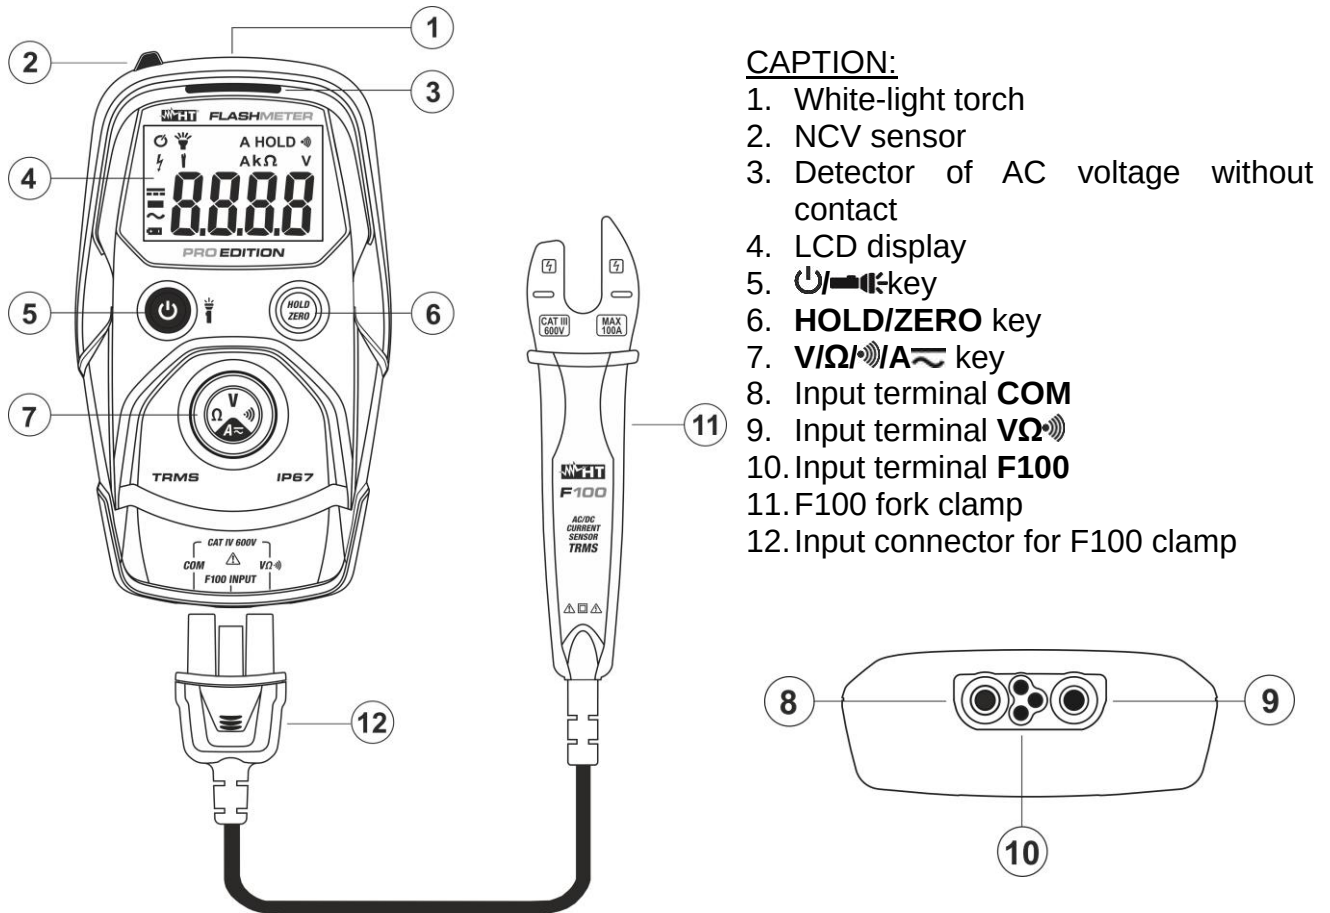

Fig. 1: Description of the instrument
Pressing the  key allows turning on the instrument. Press and hold the  key for approx. 1s to turn off the instrument. With instrument switched on, press the  key to activate/deactivate the integrated white light torch (see Fig. 1 - part 1). The symbol "" appears on the display.
The instrument allows detecting the presence of AC voltage without contact by using the NCV sensor found on the upper part (see Fig. 1 – part 2).
3. If the red detector turns on (see Fig. 1 – part 3), AC voltage is present.